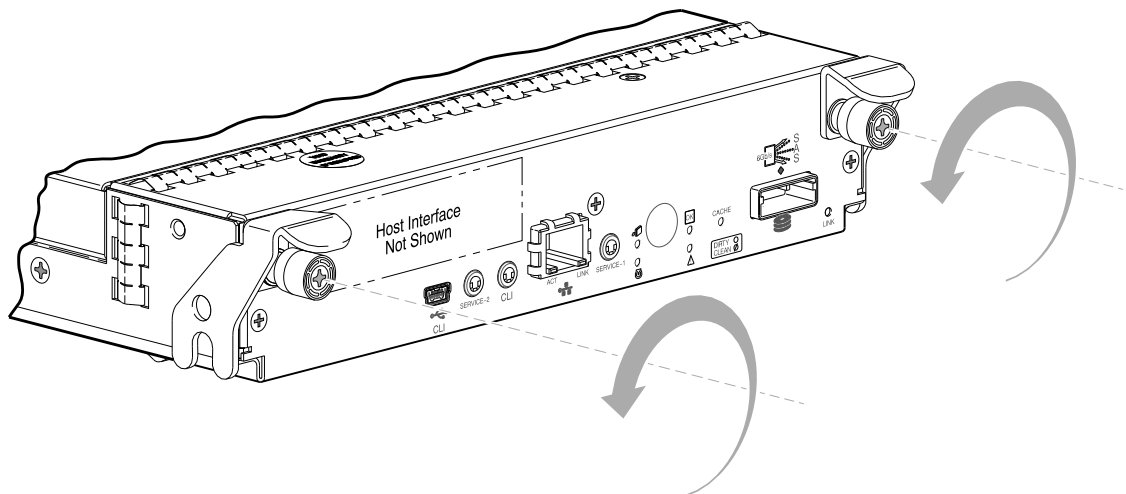

Figure 16 Disengaging a controller module
4. Turn the thumbscrews counterclockwise until they disengage from the controller (see Figure 16 on page 31).